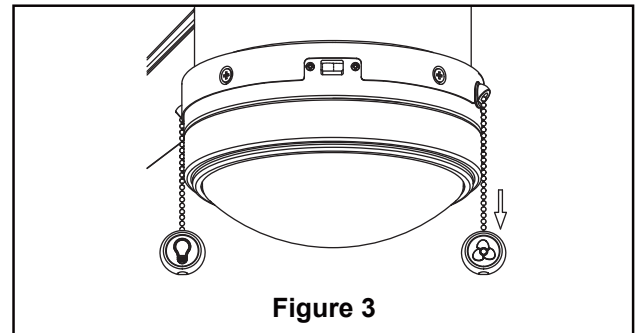

Figure 3
3. Securely attach 3-pin connector and 2-pin connector from motor assembly to wiring harness socket within switch cover/light kit assembly. (Figure 3)
3. Check the operation of the fan by gently pulling on the fan pull chain. (Figure 3)